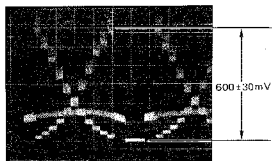

Fig. 5-5
- Adjust data by ARROW keys so that signal level becomes 600 ± 30 mV as shown in Fig. 5-5.